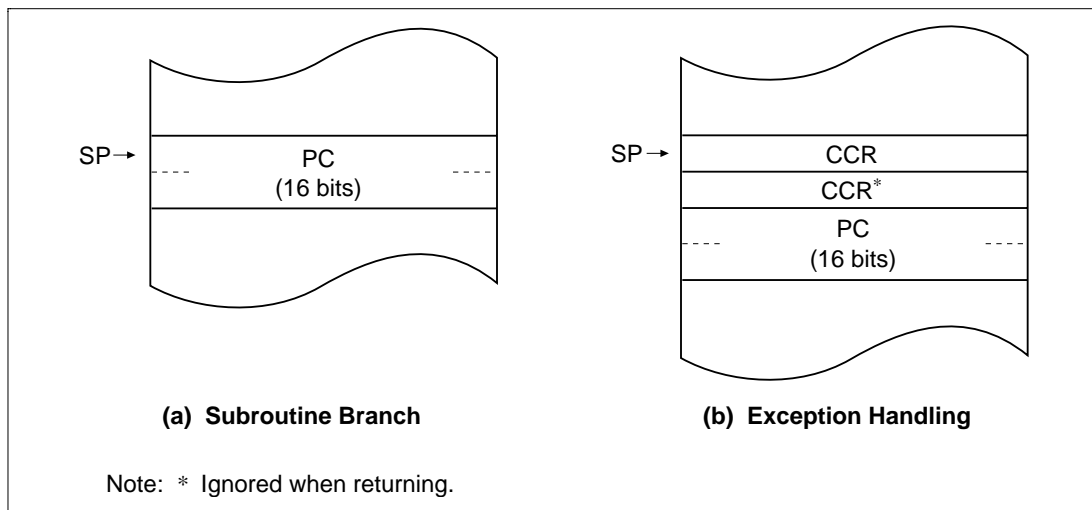

Figure 2-3 Stack Structure in Normal Mode
Stack Structure: When the program counter (PC) is pushed onto the stack in a subroutine call, and the PC and condition-code register (CCR) are pushed onto the stack in exception handling, they are stored as shown in figure 2-3. The extended control register (EXR) is not pushed onto the stack. For details, see section 4, Exception Handling.